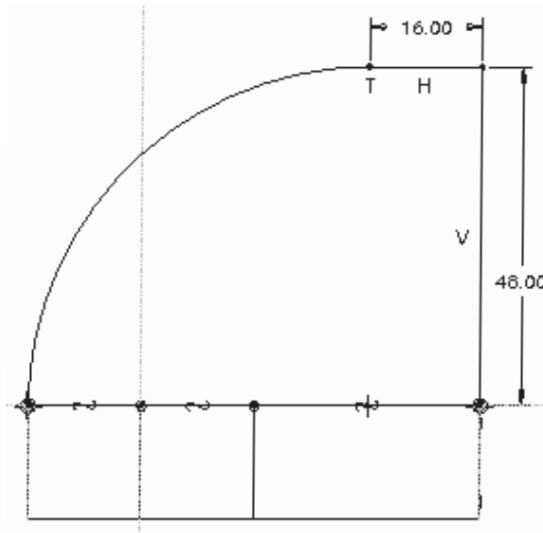

Figure 5-78 Sketch with dimensions and constraints for the second feature
1. Draw the sketch using various sketcher tools, as shown in Figure 5-78. The sketch is dimensioned automatically and some weak dimensions are assigned to it.
2. Apply the constraints and modify the weak dimensions to the dimensions shown in Figure 5-78.